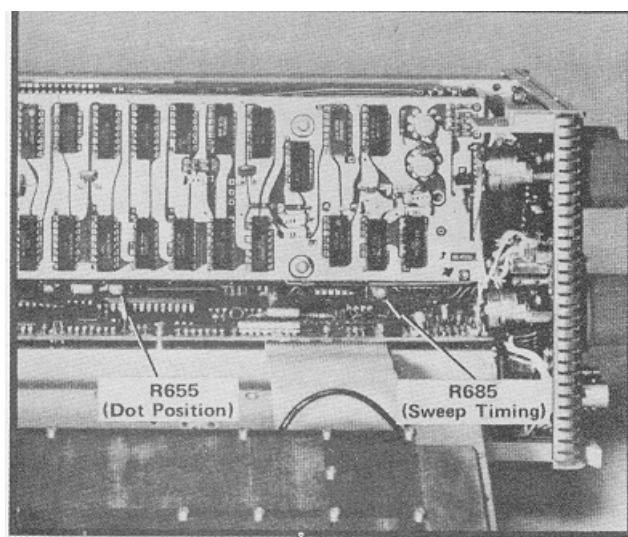

Fig. 4-7. Location of Dot Position and Sweep Timing adjustments and test points.
- d. Set the FREQUENCY SPAN/DIV to MAX. Adjust the Max Span Dot Position with R655 (Fig. 4-7) to center the marker dot on the graticule.
p. Adjust the DOT position, with R655 (Fig. 4-7) so it is aligned to the 2500 kHz marker.
c. Position the display with the HORIZ POSITION control and adjust R685 (Fig. 4-7) for 1 marker/division.